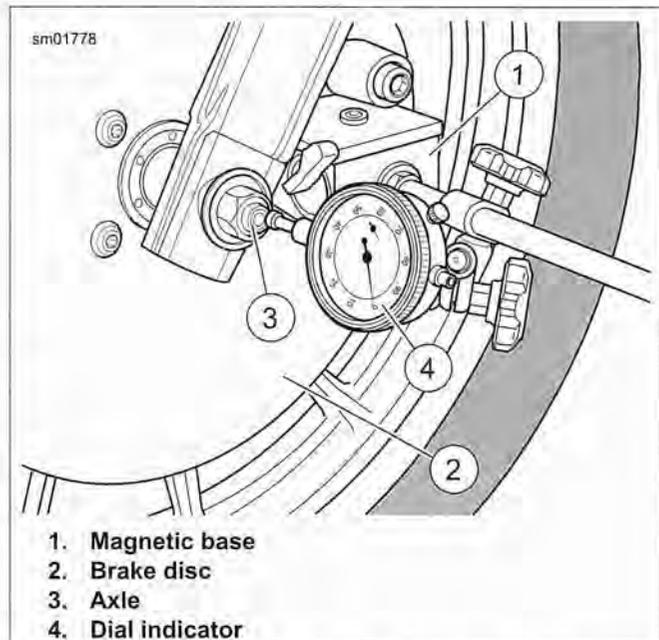

Figure 2-4. Check Wheel Bearing End Play
2. See Figure 2-4. Mount a magnetic base dial indicator on the brake disc.